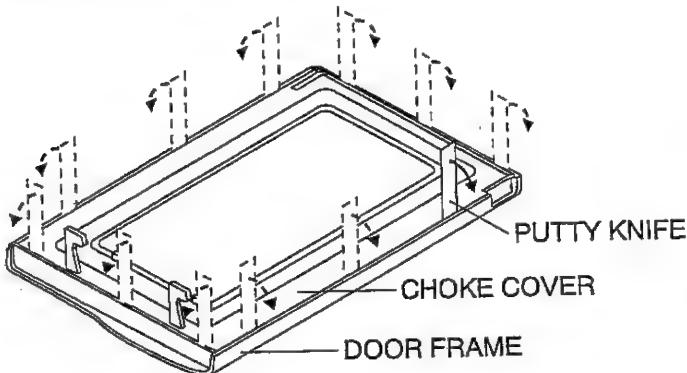

Figure C-5. Door Disassembly
3. Insert a putty knife (thickness of about 0.5mm) into the gap between the choke cover and doorframe as shown in Figure C-5 to free engaging parts.